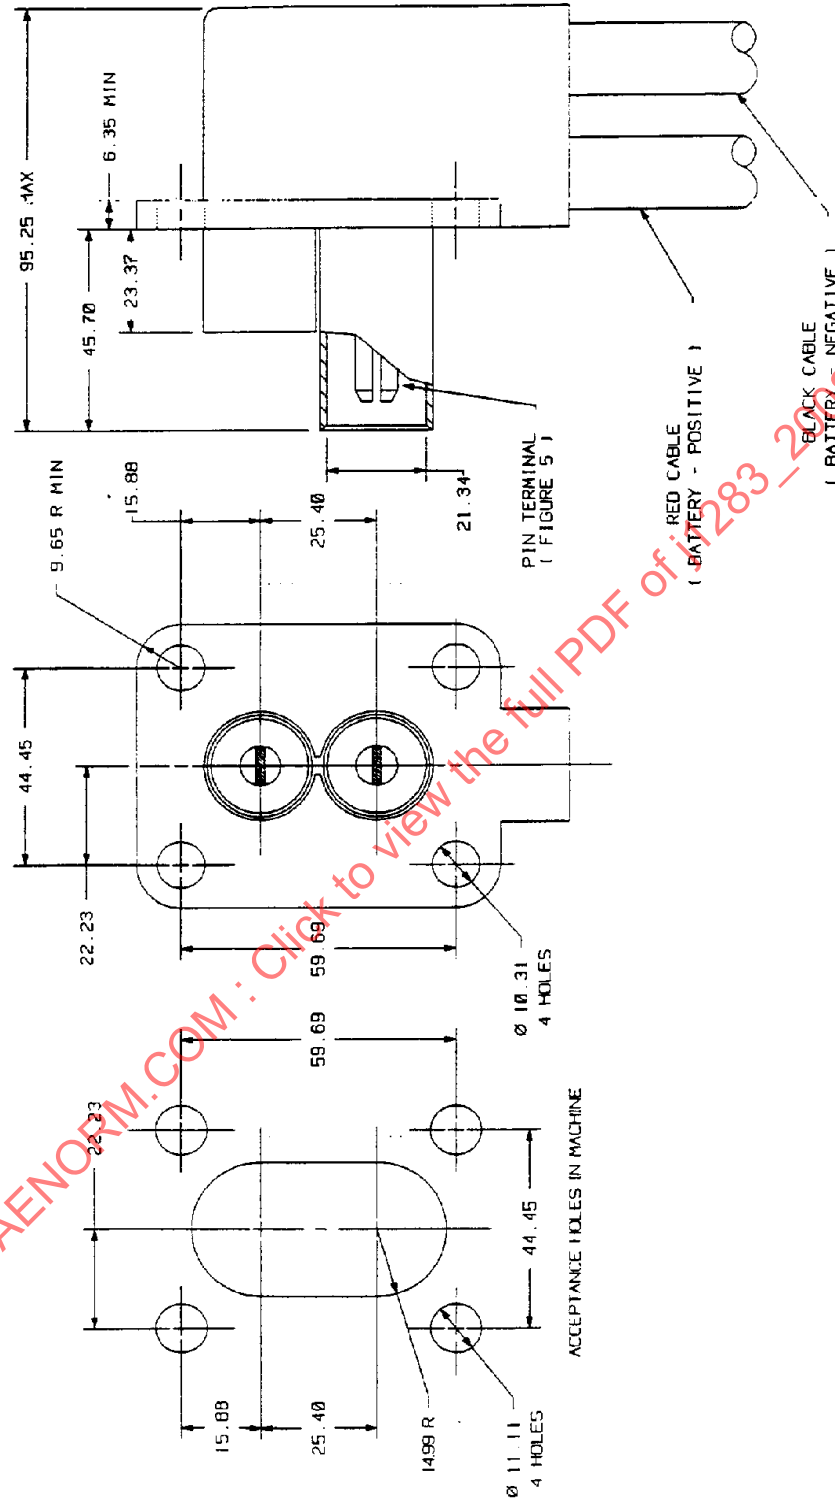

FIGURE 1—RECEPTACLE ASSEMBLY—90 DEGREES
- 3.1** The receptacle assembly shall contain two pin contacts as shown in Figures 1 and 2.
- 3.7 Color identification of cables and battery polarity shall conform to Figures 1 and 2.